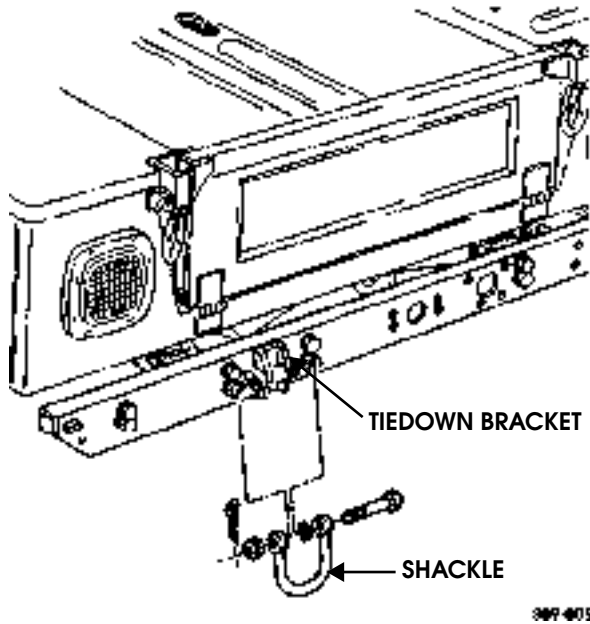

Figure 9-119: Lifting Shackle Replacement
Remove cotter pin, slotted nut, bolt, spring washer, and shackle from tiedown bracket. Discard cotter pin (Figure 9-119).
1. Install shackle on tiedown bracket with spring washer, bolt, and slotted nut. Tighten slotted nut enough to allow movement of shackle (Figure 9-119).